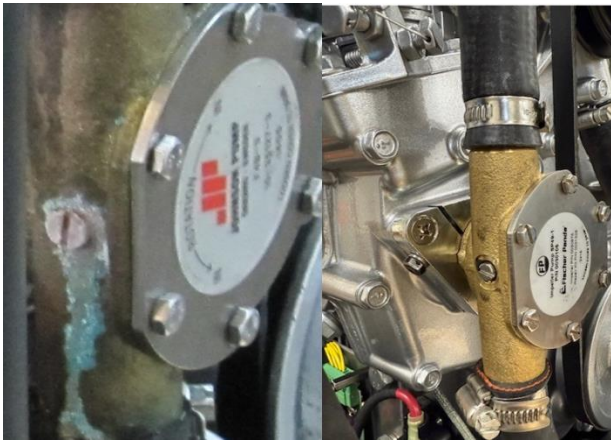

Figure 33: Leaking raw water pump (left), Good raw water pump (right)
1. Inspect the raw water pump housing for signs of leakage, see Figure 33, and wear after removing the impeller.